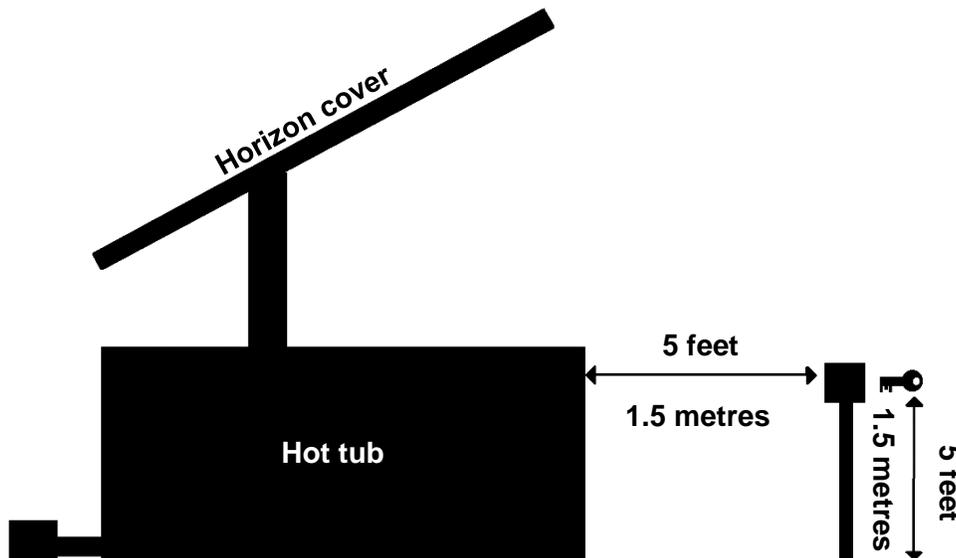

Figure 28
- ◆ The key switch must be permanently mounted and located 5 ft. (1.5 m) away from the hot tub and 5 ft. (1.5 m) above the deck or ground level. Be sure that the user has a clear view of the Horizon cover when operating it. Furthermore, the key switch terminal should be located in a place where no water downpour or debris could fall on it. (Figure 28)